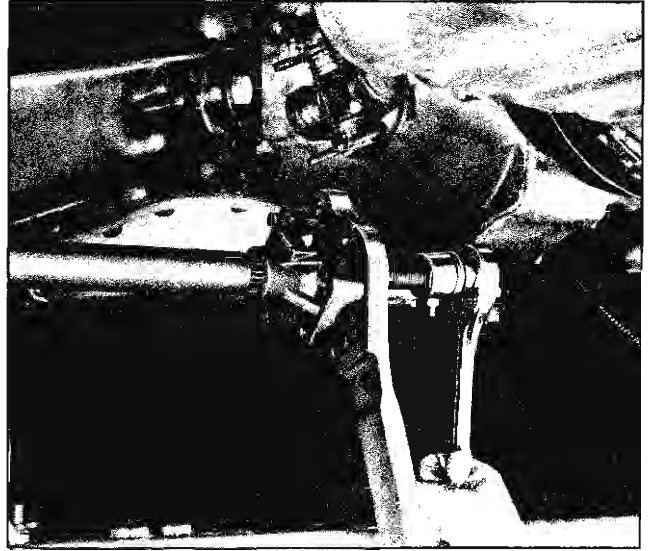

Fig. 3-34 Removing Yoke from Shaft
3. Remove universal joint yoke by using tool J-8614 (Fig. 3-34).